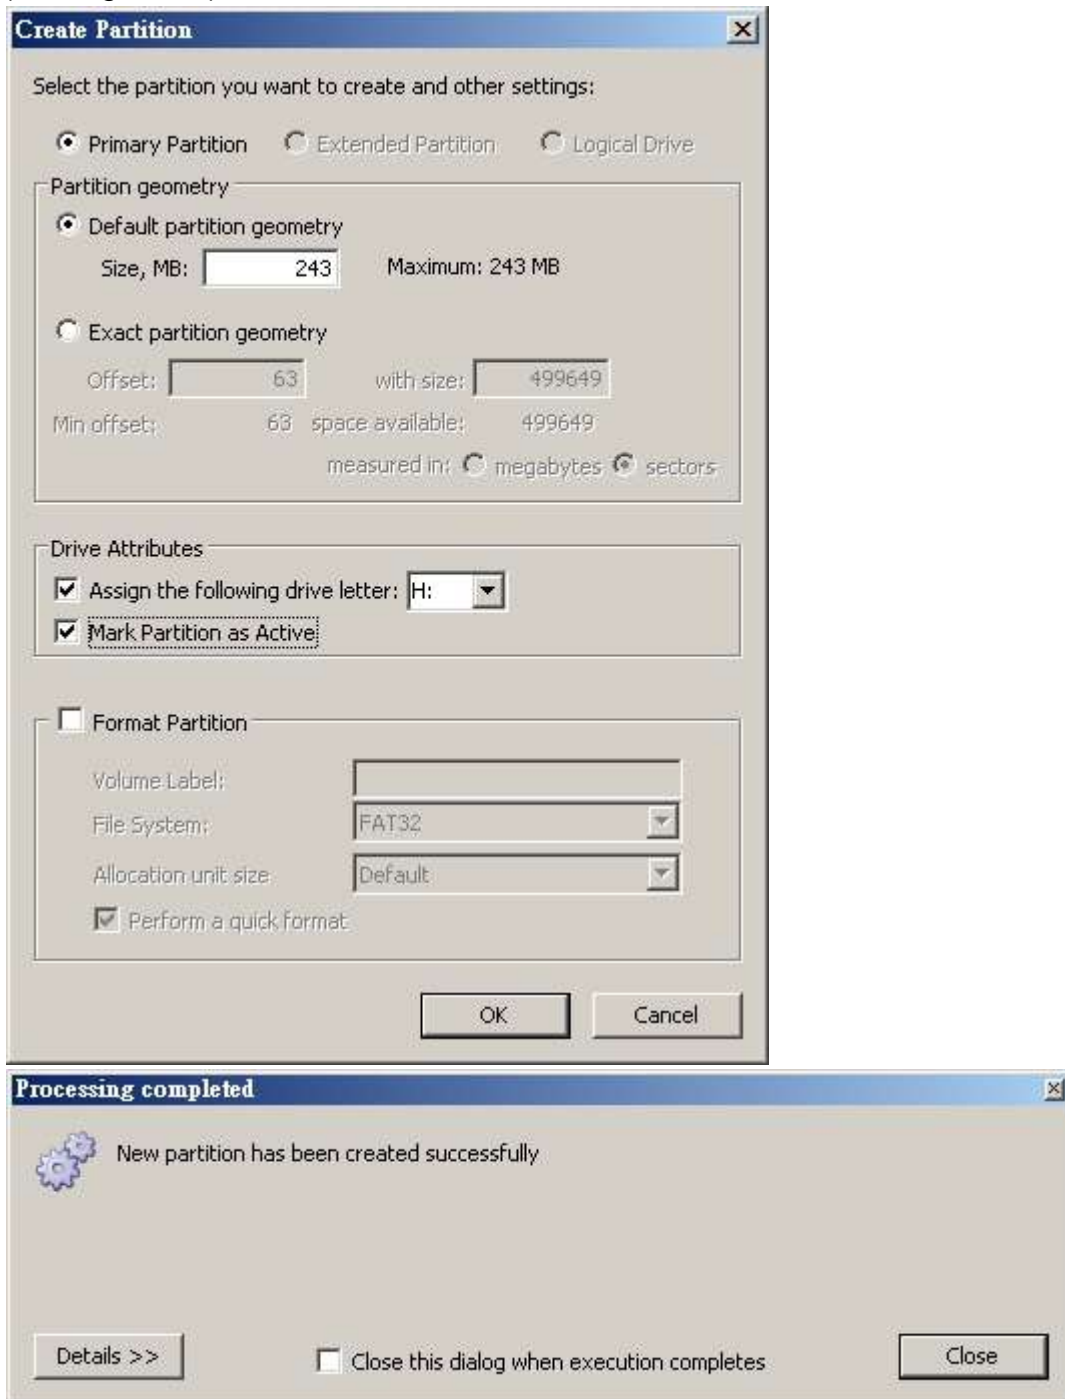

Figure 79
- In the menu mark “partition as active”, press OK, it will then show “successful” (see Figure 79)